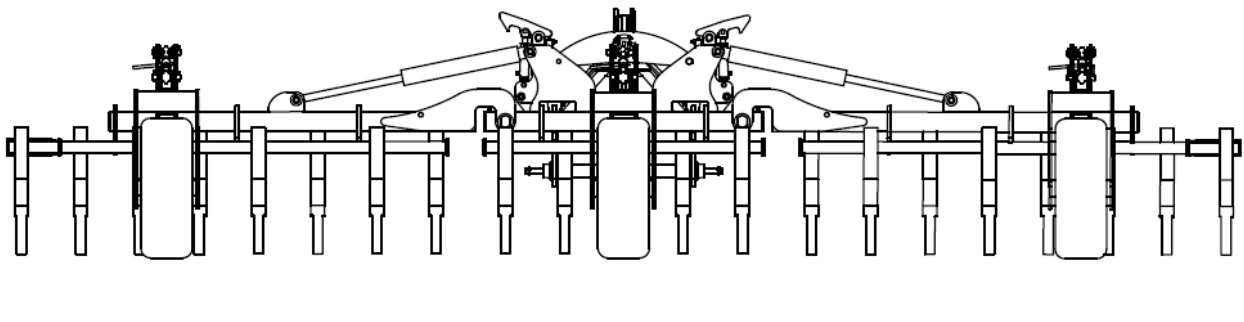

Fig. 7 View of the implement at the completion of the side extension opening sequence. The implement arms are fully open.
- To complete the opening sequence of the implement side extensions, wait until the hydraulic mechanism opens the arms to their end position. Do not interrupt the opening process of the arm side extensions without ensuring that they are fully open (Fig. 7).